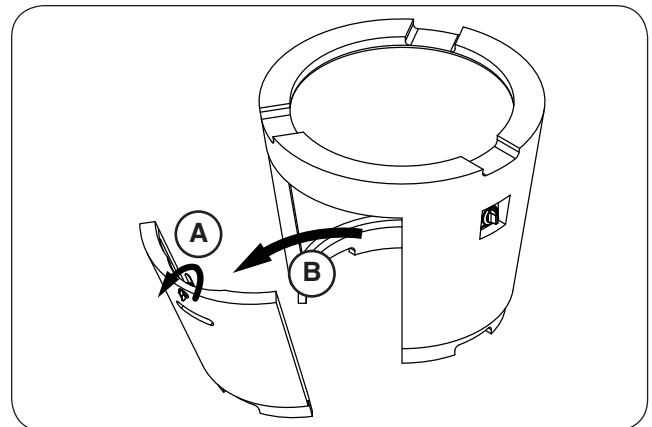

Fig. 17-2 Remove door (if applicable)
2. If equipped, remove the storage door by first turning the door handle counter-clockwise, then carefully pulling the door outward (see Fig. 17-2). Store in a safe location.